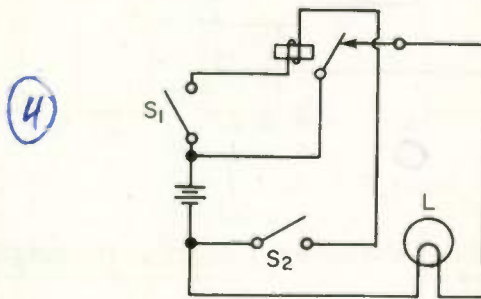

Fig. 38
5. Which of the selections for Question 1 describes the operation of the circuit of Fig. 38?